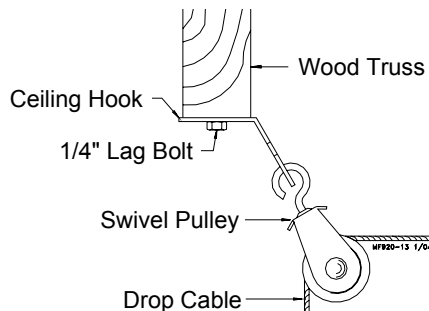

Figure 18. Pulley Installation
- After securing the Ceiling Hook to the truss, slide the hook of a Swivel Pulley into the slot, as shown in **Figure 18**.